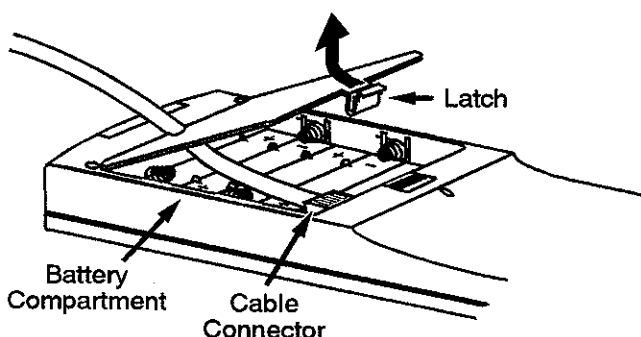

Figure 4-7. Battery Compartment
- b) Locate the battery compartment at the back side of the keypad. Squeeze the latch to open the door. See Figure 4-7.